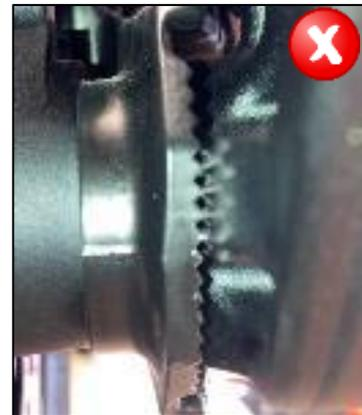

Fig. 3
3. If the alignment of the gear teeth on the license plate carrier (B) and swingarm (C) **is incorrect** as shown in Fig. 3 then loosen the components and align the gear teeth on the license plate carrier (B) and swingarm (C) correctly.